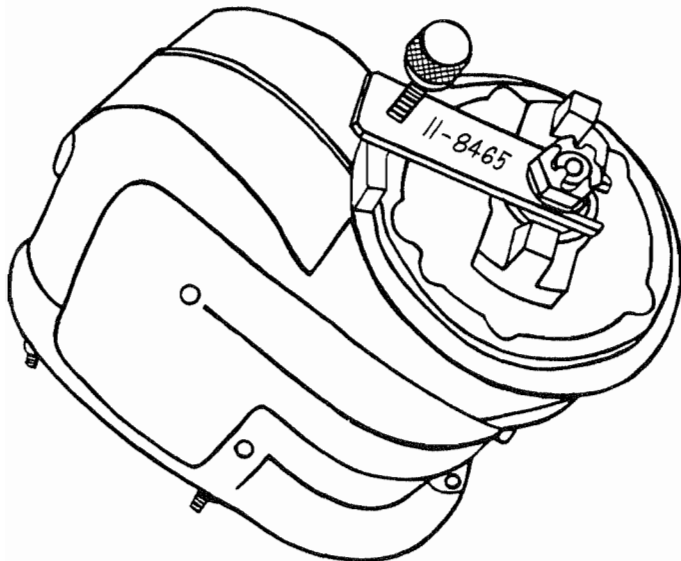

Figure 906. 11-8465 Rotor Holding Tool Installed
- B. Position the 11-8465 Rotor Holding Tool on shaft and secure in place using applicable bushing (40), washer (41), washer (39) and nut (38). Tighten nut (38) only enough to hold tool securely. See Figure 906. Tighten adjusting knob of 11-8465 Rotor Holding Tool until pressure is applied on housing flange preventing magnet from turning.